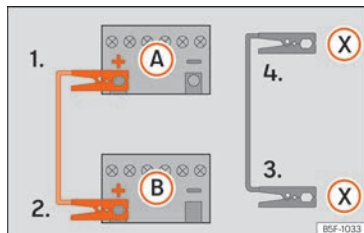

Fig. 43 Diagram of connections for vehicles with Start Stop system
- 4b. *In vehicles with a Start-stop system:* connect one end of the *black* jump lead (X) to a suitable ground terminal, to a solid piece of metal in the engine block, or to the engine block itself »» Fig. 43.
5. Connect the other end of the *black* jump lead (X) to a solid metal component bolted to the engine block or to the engine block itself of the vehicle with the flat battery. Do not connect it to a point near the battery (A).